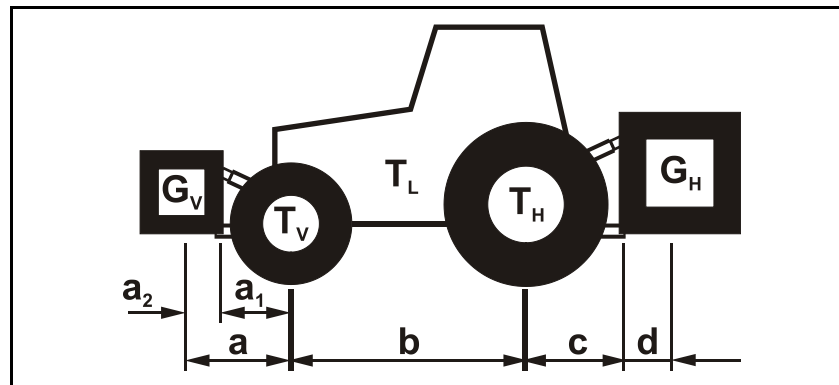

Fig. 56
2. Remove the locking screw (Fig. 56/1) from the PTO shaft guard.